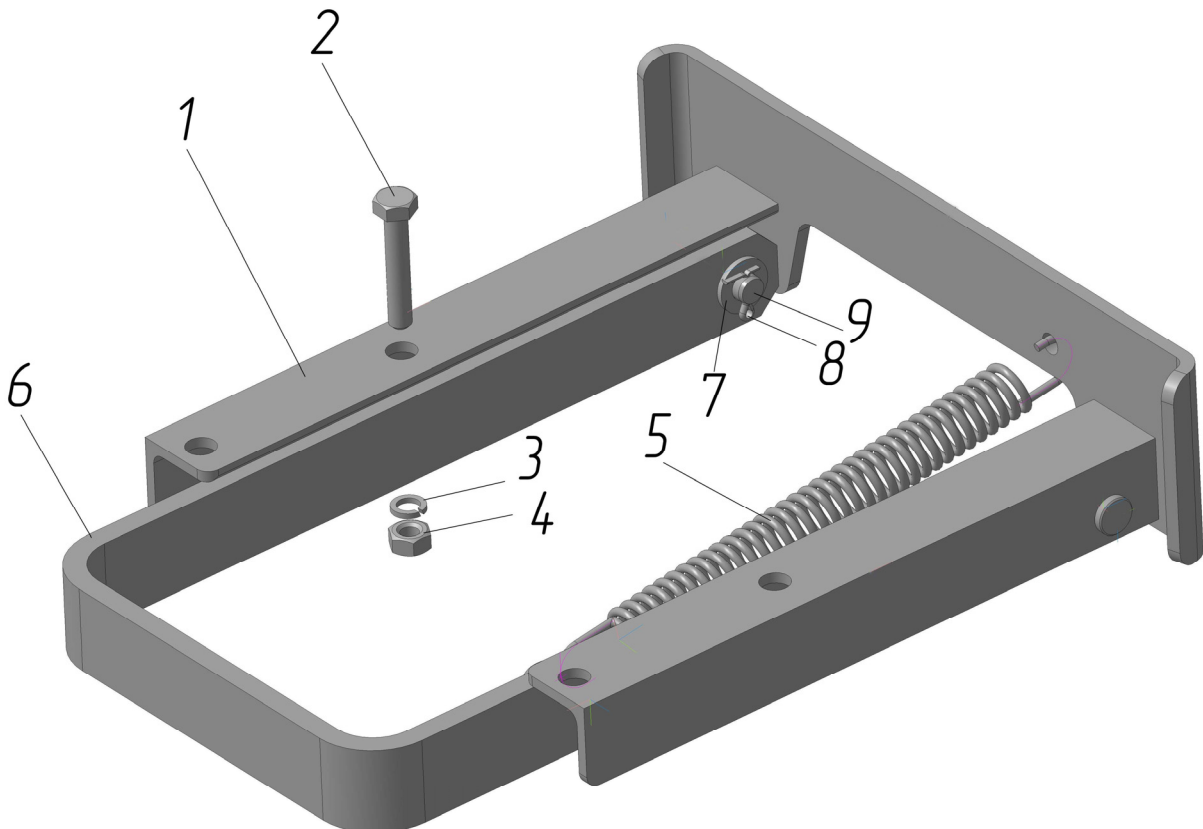

Figure 12 – Folding step
**05-8405. Folding step (figure 12)**